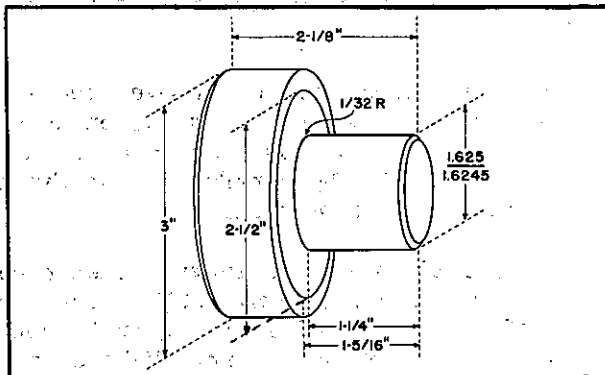

Figure 14
4. Using bearing driver, see Figure 14, press bearings into the bearing bores of adapter and end cover.